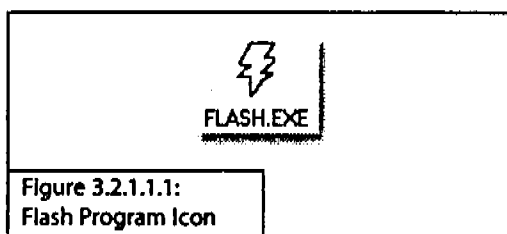

Figure 3.2.1.1.1:
- In Program Manager, double-click on the TekLink program folder and then double-click on the Flash program icon (Figure 3.2.1.1.1).